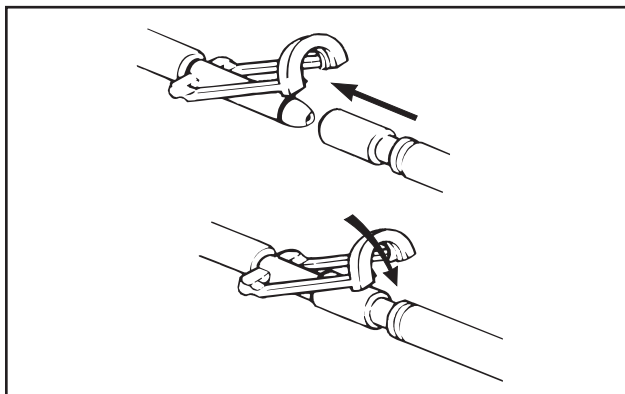

Figure 6—Clik-Tite Connector
- Attach the two Clik-Tite connectors (fig. 6) on the connector hose to the blanket/body wrap. Insert the male fitting into the female. When fittings are fully seated, snap the locking ring into place to assure a positive lock.